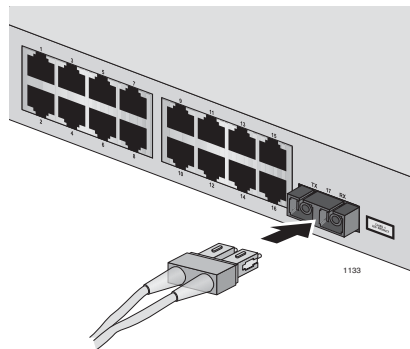

Figure 15. Connecting to the Dual SC Fiber Optic Port
2. Connect the appropriate optical cable to the port, as shown in Figure 15.